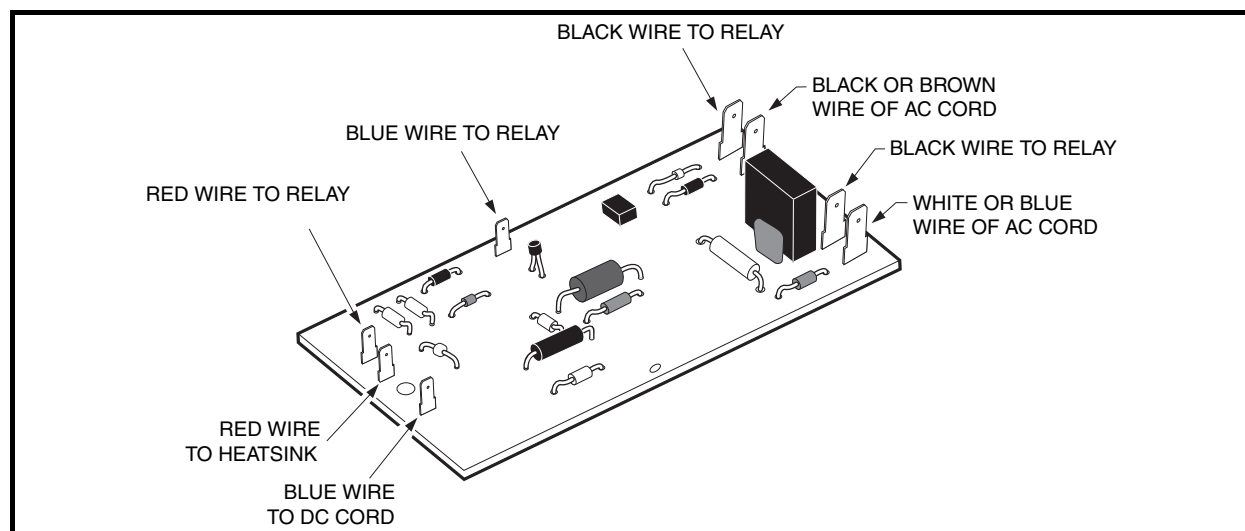

Figure 4-12 Control Board
2. Disconnect white or blue wire of AC cord at terminal on control board (**Figure 4-12, Page 4-14**). See following **DANGER**.